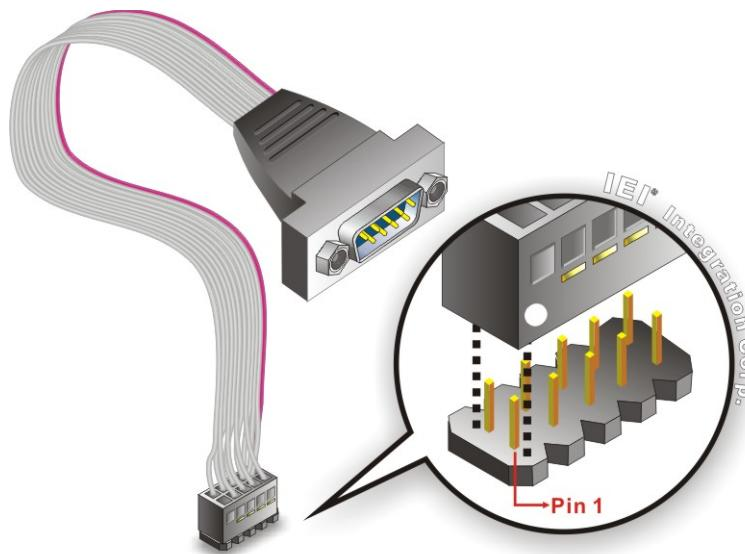

Figure 4-22: Single RS-232 Cable Installation
Step 2: Insert the cable connector. Align the cable connector with the onboard connector. Make sure pin 1 on the board and connector line up. Pin 1 on the cable connector is indicated with a white dot. See Figure 4-22.